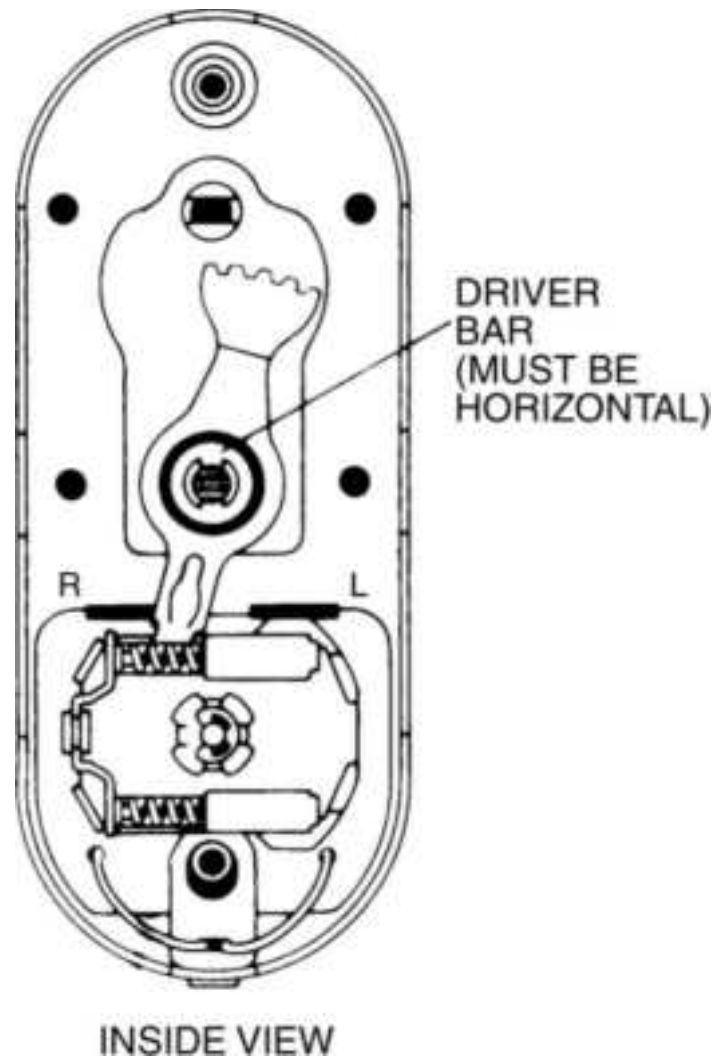

**Figure 13.104** Right-hand conversion, Step 12.
12. Install the driver bar (Fig. 13.104 ).